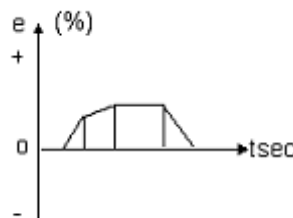

Figure 3b
- (b) Why a pure derivative is not preferred? Draw the derivative controller output for the error given below figure3b. (Assume the relevant settings) [8+8]